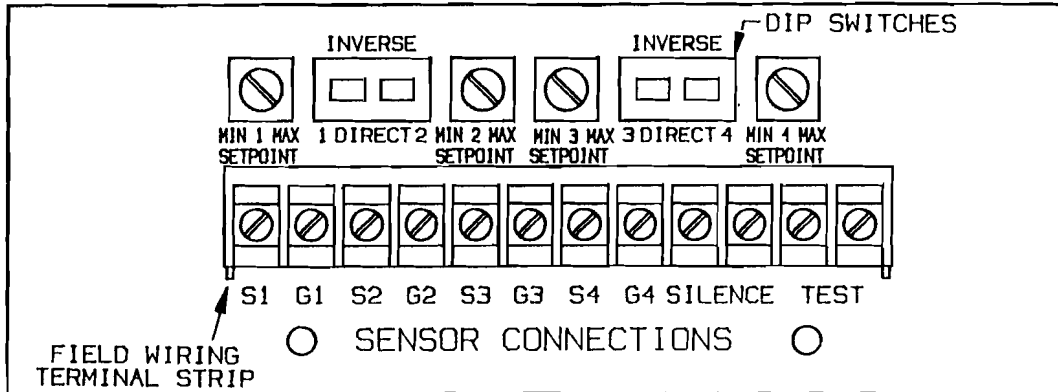

Figure 4-1
Before putting the system into operation, dip switches and potentiometers must be set to correctly match the type of sensor you are using. The dip switches and pots are located directly above the sensor terminal strip. See Figure 4-1.
1. Re-check position of dip switch (Figure 4-1, Table 4-1). If correct, continue.